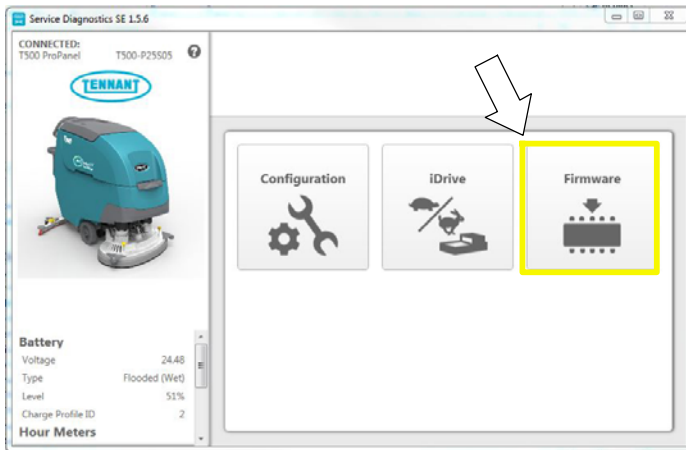

Fig. 13
5. Once connected, the home screen will appear (Figure 13). If firmware updates are required, the “Firmware” button will be highlighted in yellow as shown. Press the button to update the machine’s firmware.